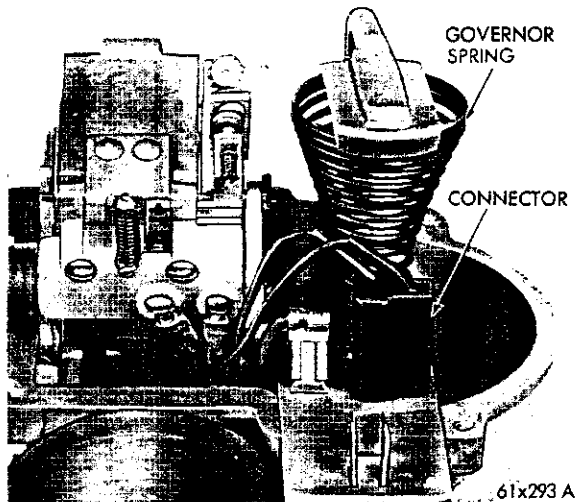
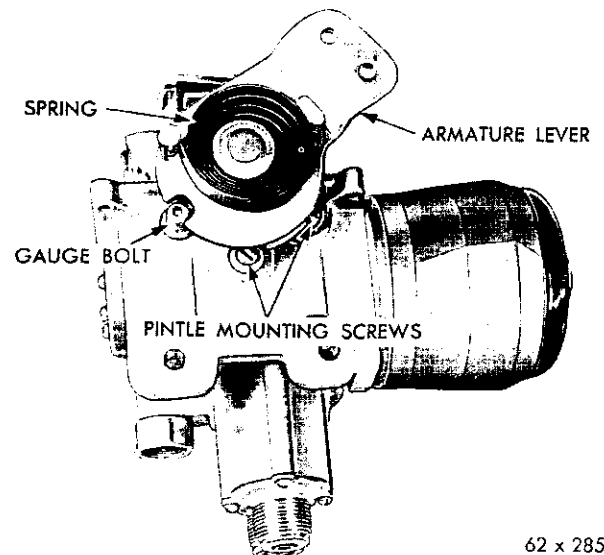

Fig. 48—Remove the Connector From the Terminal Block
Fig. 49—Removing the Pintle Screws and Gauge Bolt
(6) Disconnect the double plug-in connector from the terminal block (Fig. 48).
(7) Remove the governor spring (Fig. 48).
(8) Remove the ball socket from the end of the compressor rod and remove the compressor rod from the housing.
(9) Remove the guide clamp nut from the housing.
(10) Remove the compressor rod guide.
(11) Disconnect the spring from the armature lever and remove the armature lever.
(12) Remove the gauge bolt and washer. Remove the two pintle screws and washers located under the locking arm (Fig. 49).
(13) Lift the pintle assembly out of the housing.